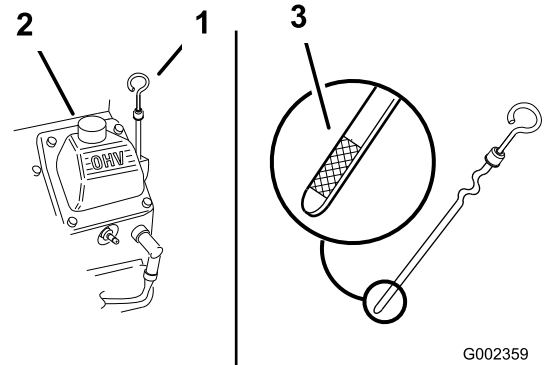

Figure 22
3. Clean around the oil dipstick (Figure 22) so that dirt cannot fall into the hole and damage the engine.
4. Remove the oil dipstick and wipe the end clean (Figure 22).
5. Slide the oil dipstick fully into the filler tube (Figure 22).
- Slowly pour approximately 80% of the specified oil into the filler hole (Figure 22).